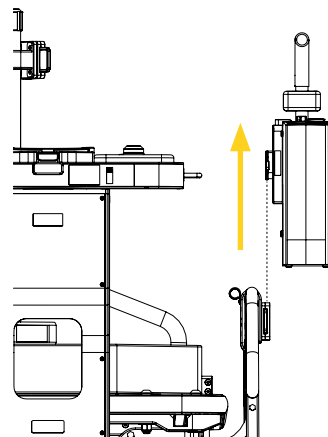

Figure 13: Removing the medical device from the mounting system
1. Press and hold the quick-release button of the mounting system's Flex Sequor, then pull the medical device out of the mounting system vertically (Figure 13). Refer to the mounting system's and/or Flex Sequor's User Manual(s) if needed.